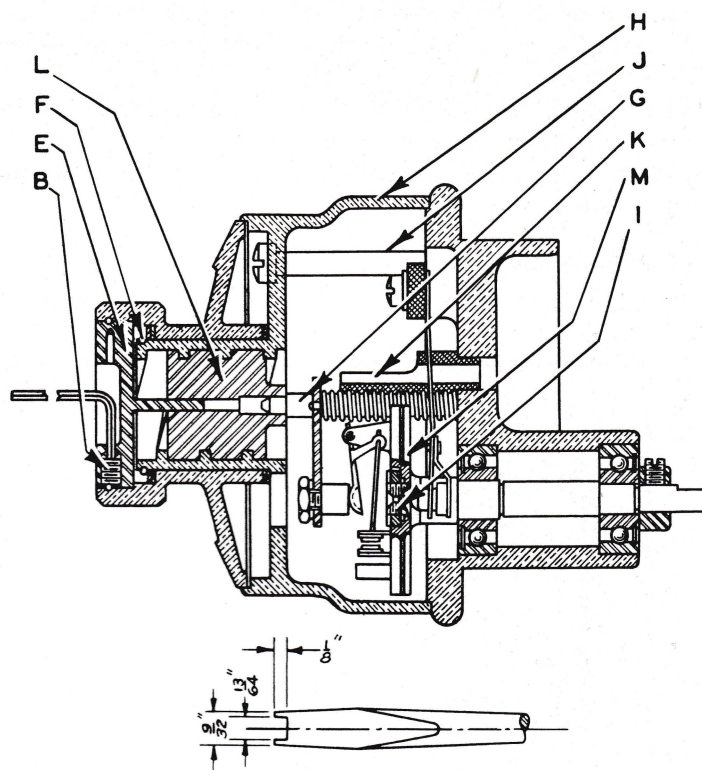

Fig. 9 Dissassembling Indexed Speed Control
The governor and governor brushes may be inspected or replaced by disassembly of the indexed speed control and governor housing (refer to Fig. 9). To disassemble the indexed speed control, turn the knob in a clockwise direction until the graduated disc has reached the first division line and bears against the stop.
Lift out control plate assembly "G" and springs. A special screwdriver, (Stock No. 832 2409) ground as shown in Fig. 9 is required to remove governor lock nut "I". Insert screwdriver into governor lock nut; while holding the governor at its outer edge to prevent rotation of the shaft, rotate screwdriver counterclockwise. After removing the nut, slide governor "M" from shaft.
3. Reassembling Governor (Refer To Fig. 9)